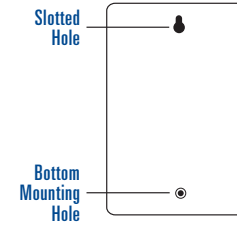

Figure A3: Back of Sprinkler Timer
- Slip the slotted keyhole, in the back of the Sprinkler Timer, over the screw. [See Figure A3]